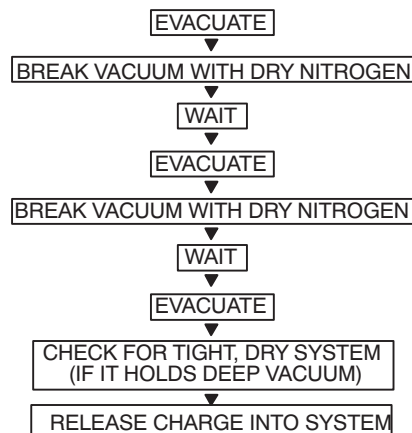

Fig. 20 —Triple Evacuation Method
The triple evacuation method should be used when vacuum pump is not capable of pumping down to 500 microns and system does not contain any liquid water. Refer to Fig. 20 and proceed as follows:
5. Repeat this procedure as indicated in Fig. 20. System is now free of any contaminants and water vapor.